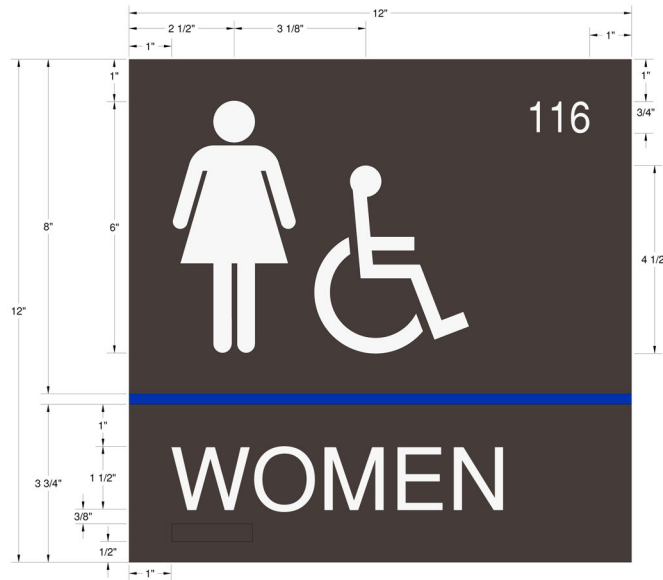

Figure 15.10
- 15.10. UMD D1 sign elevation shall comply with figure 15.10.